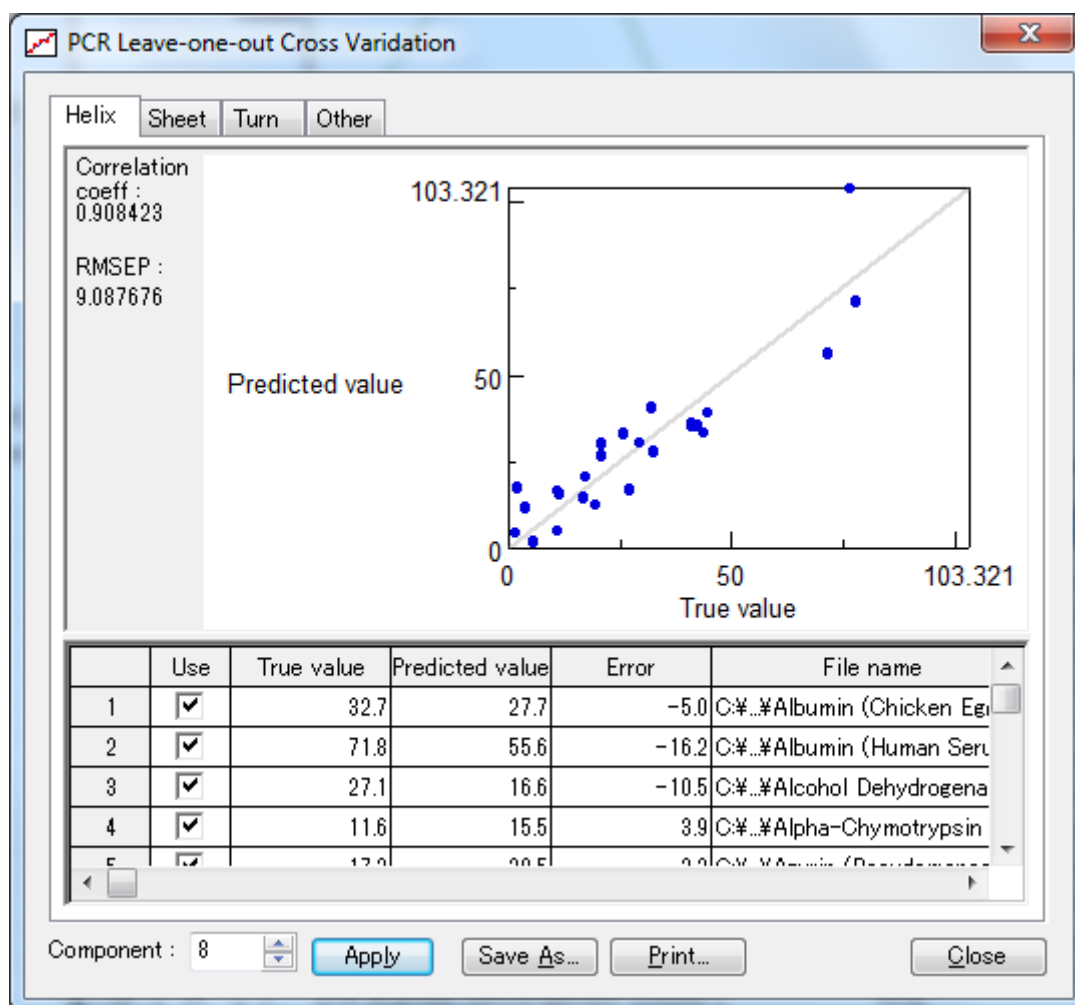

Figure 2.13 [PCR Leave-one-out Cross Validation] dialog box
- (1) Select [PCR] - [Leave-one-out Cross Validation...] from the [Model] menu. The dialog box in Fig. 2.13 is displayed.
- (1) Click the <Save As> button in the dialog box in Fig. 2.13 or 2.14 to display the dialog box in Fig. 2.15. Enter a file name and then click the <Save> button to save the calibration curve in text (.txt) format.